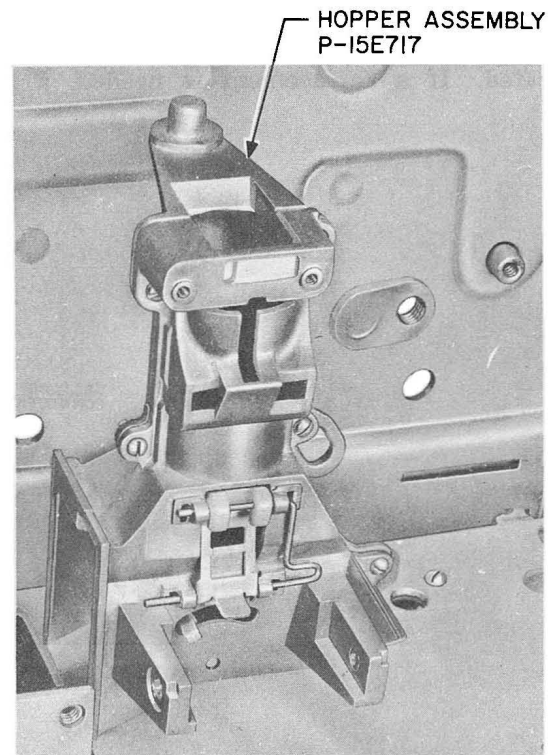

Fig. 9 — Hopper Assembly
3.07 The hopper assembly is shown in Fig. 9.